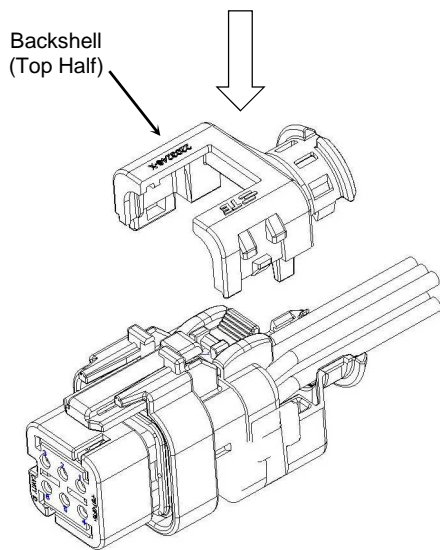

Figure 4
- For assembly to a plug connector, be sure to use the backshell with an open window area as the top half. Again, turn the top half of the backshell over and insert the connector into the backshell so that the wire seal cover is behind the second rib at the opening of the backshell. Firmly press the two halves together. An audible and tactile click will indicate when they are mated. Visually check all the latches for complete engagement. See Figure 4.